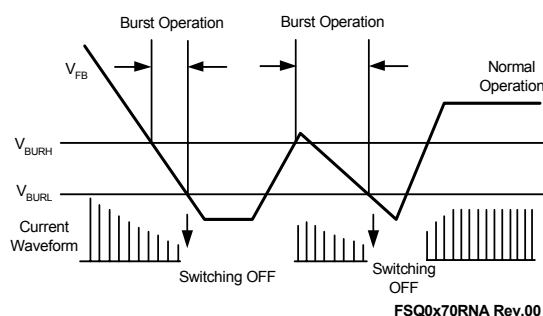

Figure 17. Burst Operation Function
6. Burst Operation: To minimize power dissipation in standby mode, the FPS enters burst-mode operation. Feedback voltage decreases as the load decreases, as shown in Figure 17, and the device automatically enters burst-mode when the feedback voltage drops below